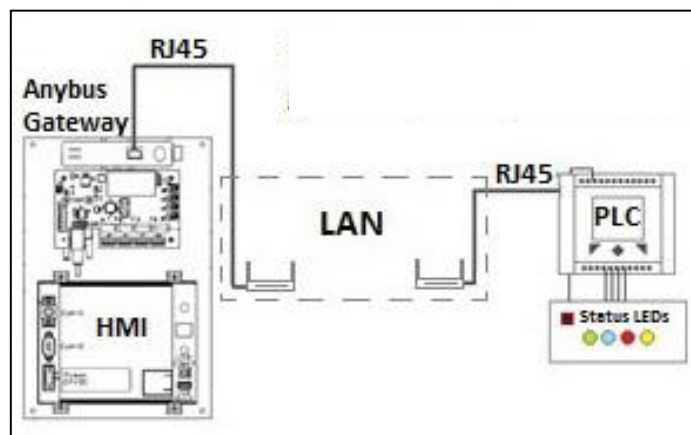

Figure 9.4: Anybus Gateway Network Setup with PLC Example
- The network setup is displayed in **Figure 9.4**.